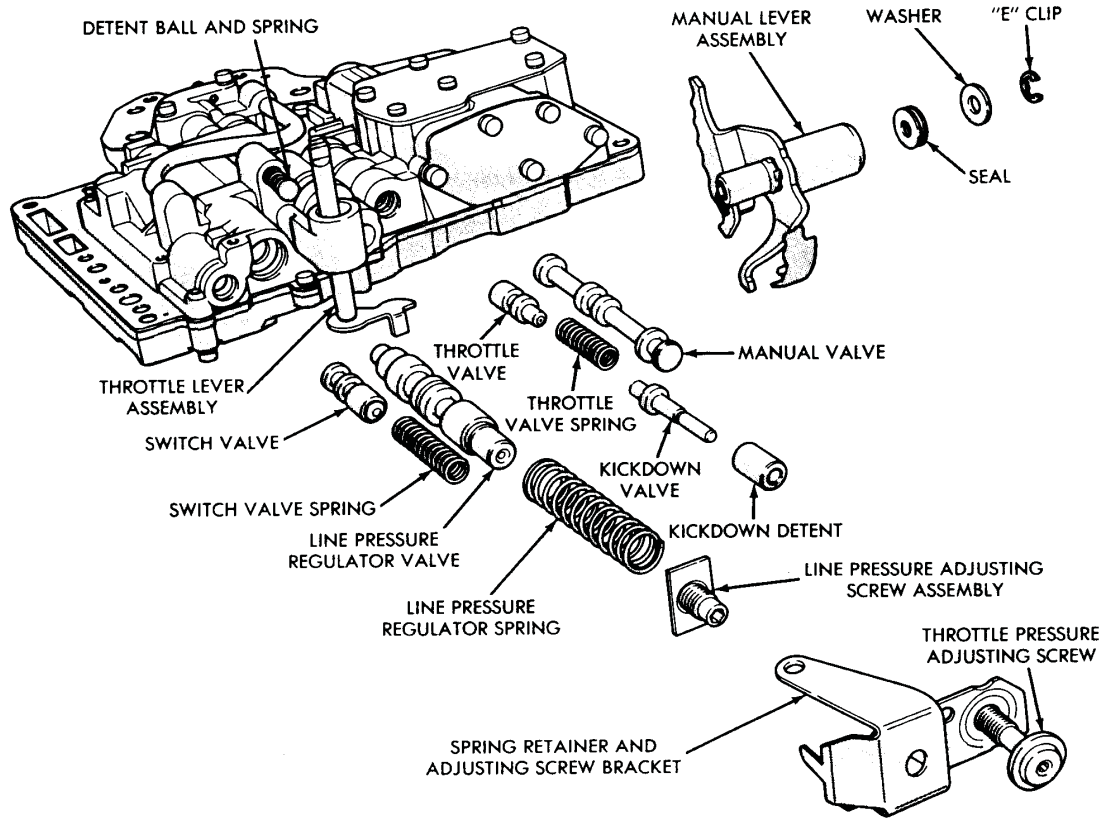

Fig. 2—Pressure Regulators and Manual Control
- (1) Remove "E" clip and washer from throttle lever shaft (Fig. 2). Remove any burrs from shaft, then while holding manual lever detent ball and spring in their bore with Tool C-3765 or similar tool, slide manual lever off the throttle shaft. Remove the detent ball and spring.
- (2) Slide manual valve out of its bore.
- (3) Slide out the kickdown detent sleeve, kickdown valve, throttle valve spring, and the throttle valve.